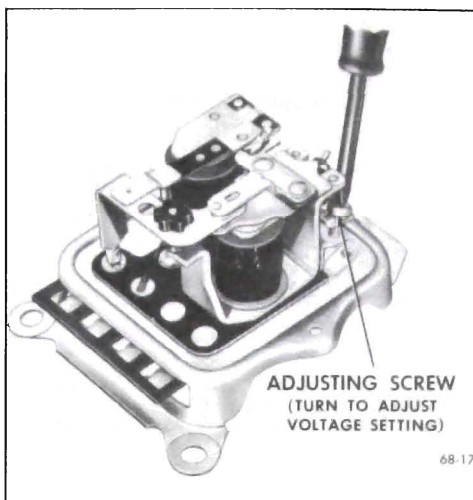

Figure 68-15--Adjusting Voltage Regulator Setting
5. Adjust voltage regulator to 14.0 volts. To increase voltage setting, increase spring tension; to decrease setting, decrease spring tension. See Figure 68-15.